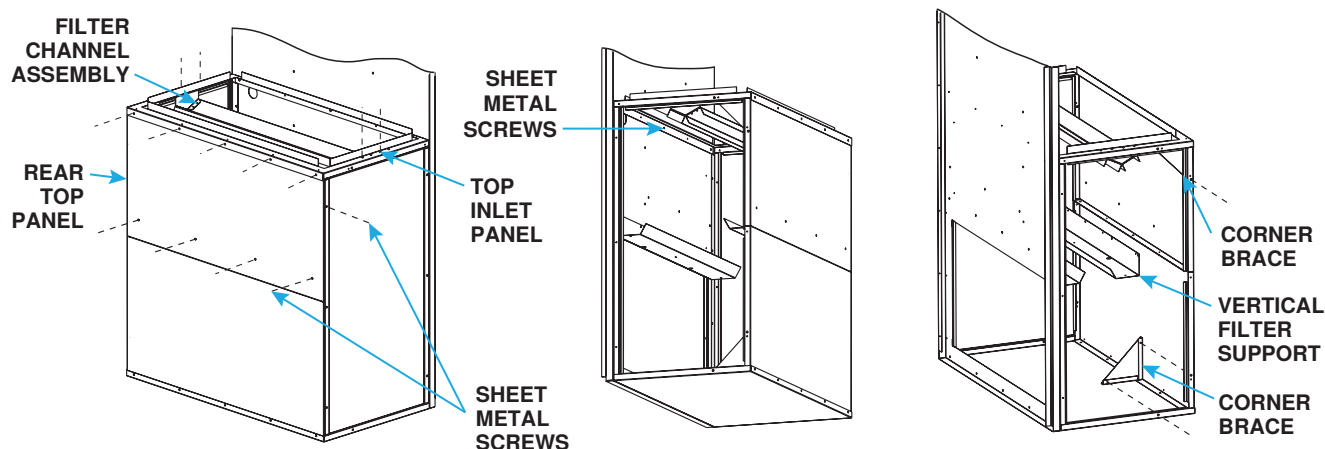

Figure 14. Install Vertical Inlet Filter Cabinet on Heater
3. Install rear top panel, top inlet panel, filter channel assembly, and corner braces and secure filter cabinet to heater cabinet as shown in Figure 14: